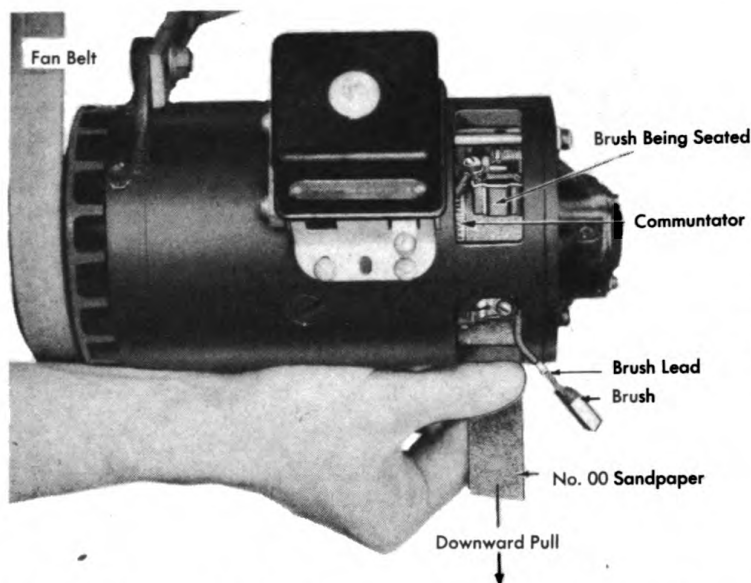

Figure 231. Seating brush.
E. After new brushes are installed, they should be sanded to make sure of the proper fit on the commutator. To sand the brushes, cut a strip of 00 or 000 sandpaper to the exact width of the commutator. Slip this strip under a brush. With the abrasive side against the brush and the brush at its proper spring tension, draw the sandpaper following the contour of the commutator and make certain that the entire face of the brush is being ground. Do not grind excessively and be careful not to break the edge of the brushes. See Figure 231.